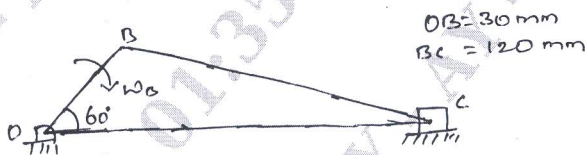

Fig. Q3
- 3 In a slider crank mechanism, the Crank  $OB = 30$  mm, connecting rod  $BC = 120$  mm, the crank rotates at a uniform speed of 300 rpm clockwise. For the crank position shown in Fig. Q3, determine velocity of piston 'C' and angular velocity of connecting rod 'BC', acceleration of piston 'C' and angular acceleration of connecting rod 'BC'. (20 Marks)